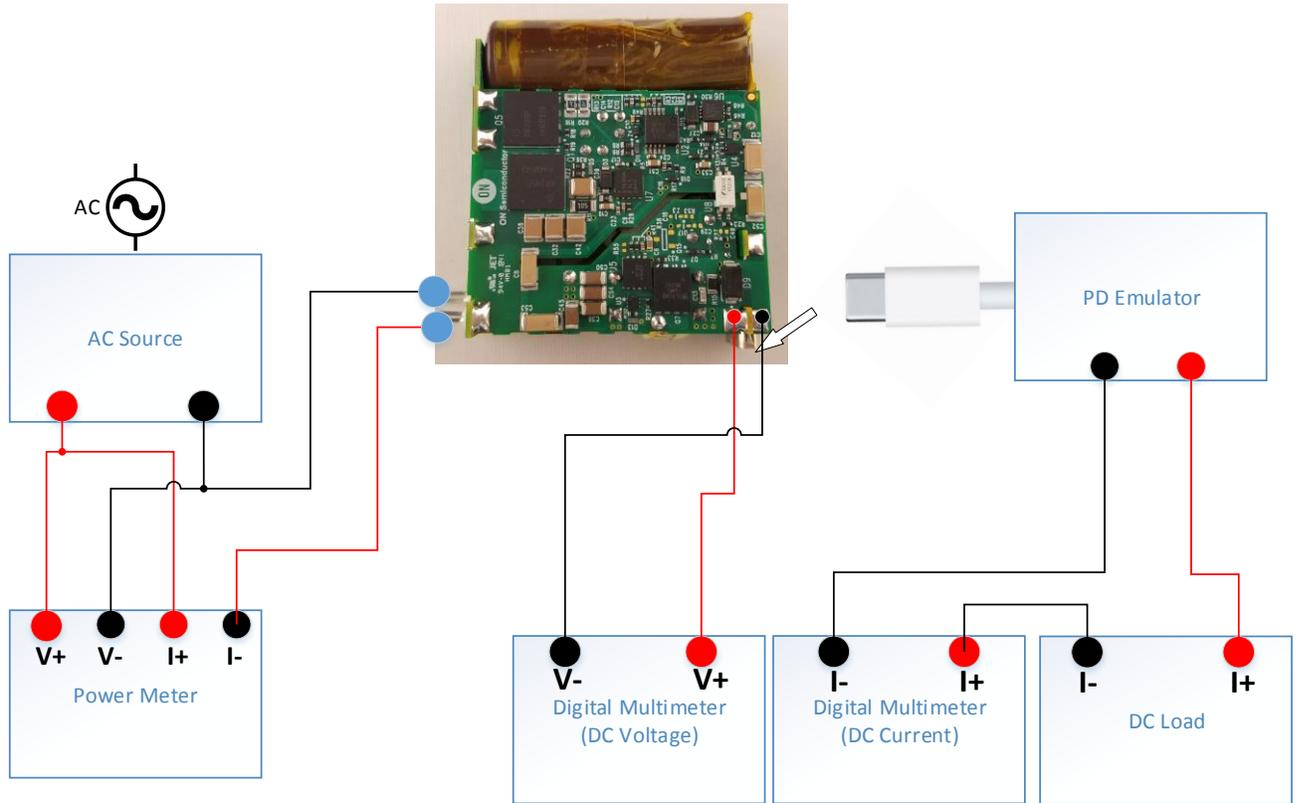

Figure 1 - Test Configuration
2. Connect the output of the board to the PD emulator as shown in Figure 1.
3. Connect the Agilent 34401A Digital Multimeter (measuring DC I) in series with the output of the PD emulator and the Kikusui PLZ303W DC Electronic Load. Reference figure 1.
6. Connect the Agilent 34401A Digital Multimeter (measuring DC V) to the nodes as shown on Figure 1 (VOUT & SECGND in Figure 2).
7. Connect the AC power source and power meter as shown in Figure 1.